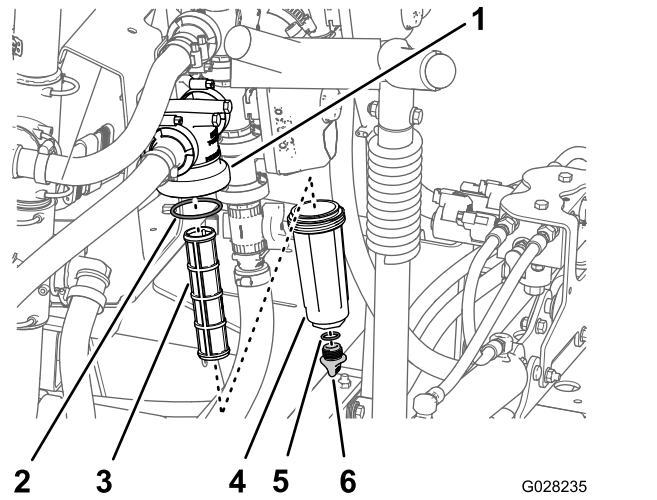

Figure 48
- Align a drain pan under the pressure filter (Figure 48).
- Rotate the drain cap counterclockwise and remove it from the bowl of the pressure filter (Figure 48).
- Rotate the bowl counterclockwise and remove the filter head (Figure 48).
- Remove the pressure filter element (Figure 48).
- Check the gasket for the drain plug (located inside the bowl) and the gasket for bowl (located inside the filter head) for damage and wear (Figure 48).
- Install the pressure filter element into the filter head (Figure 48).
- Install the bowl onto the filter head, and tighten by hand (Figure 48).
- Assemble the drain cap onto the fitting at the bottom of the bowl, and tighten the cap by hand (Figure 48).